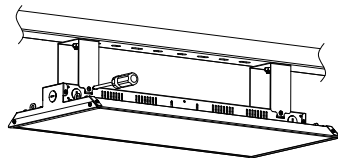

Figure 6
- Step2. Assemble the lamp on the bracket and then lock the screws (Figure 6);